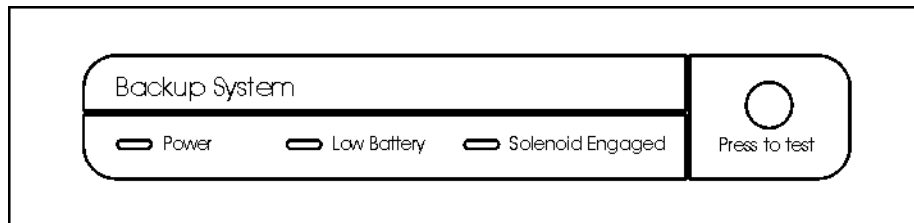

Figure 6-6
d. BUS Control Panel (see figure 6-6)